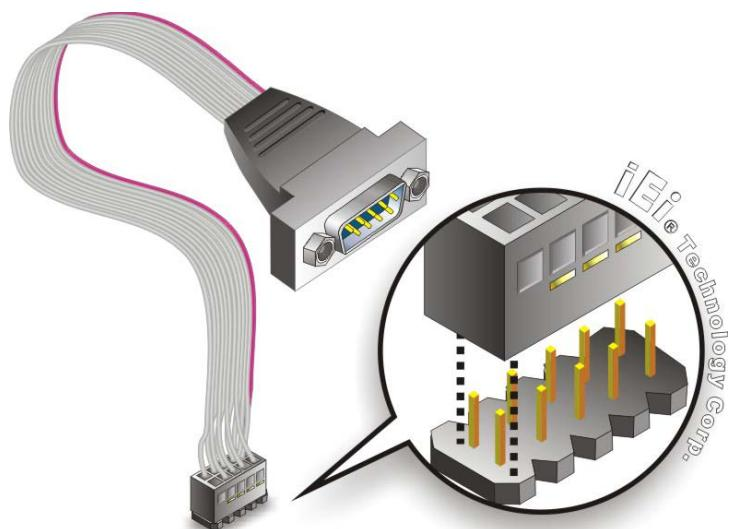

Figure 4-8: Single RS-232 Cable Installation
Step 2: Insert the cable connector. Insert the connector into the serial port box header. See Figure 4-8. A key on the front of the cable connectors ensures the connector can only be installed in one direction.